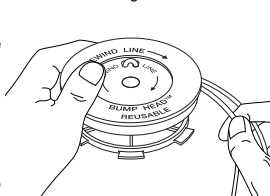

Fig. 17
7. Wind the lines in tight even layers, onto the reel (Fig. 17). Wind the line in the direction indicated on the inner reel. Place your index finger between the two lines to stop the lines from overlapping. Do not overlap the ends of the line. Proceed to step 11.